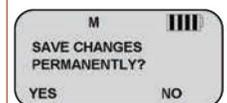

Figure 8
2. Attach each end of the cloning cable to each Accessories Jack on top of the radio. *(See Figure 8)*